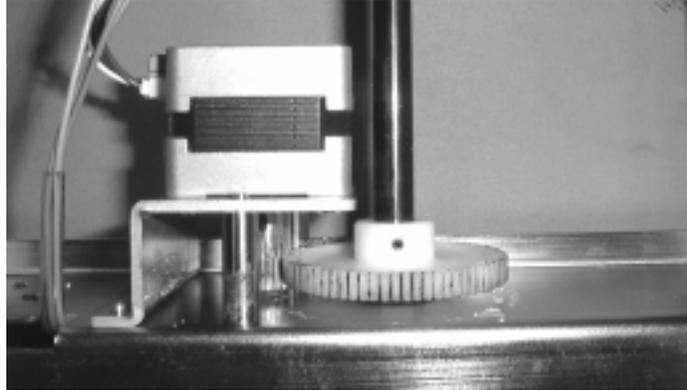

FIGURE 15-4
5. Mount the gear to new stepping motor. Keeping a gap of about 0.8mm between the stepping motor and the gear as shown in Fig.15-3. Assemble them so that the backlash will be 0.1 - 0.2mm. Fig.15-4.